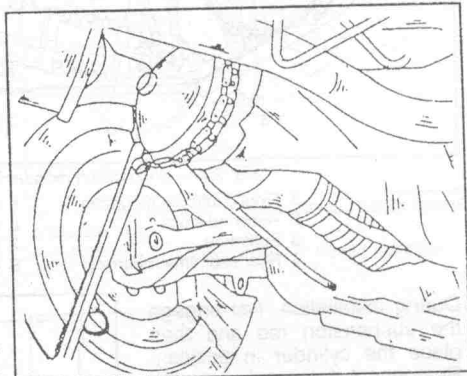

Fig. 7.2. — Removal of a rear suspension sphere with a chain wrench.
- Apply the chain wrench as shown in Fig. 7.2. and unscrew the sphere. Fully remove the sphere by hand.